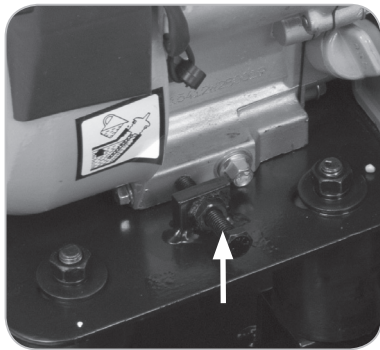

Fig. 17
- Loosen the four (4) hexagonal headed bolts using a suitable spanner (not supplied).
- Slide the engine backwards or forwards to alter the tension of the Drive Belt. An adjustment screw (**Fig. 17**) is provided at the front of the engine to aid precise positioning of the engine.